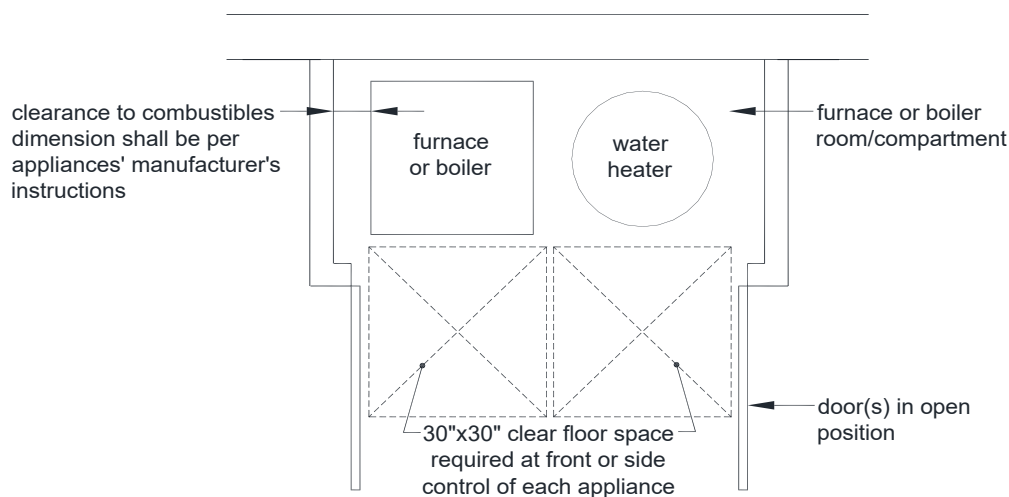

FIGURE 14: APPLIANCE CLEARANCES
- 30 inches x 30 inches clear floor space at front/control side. See FIGURE 14.